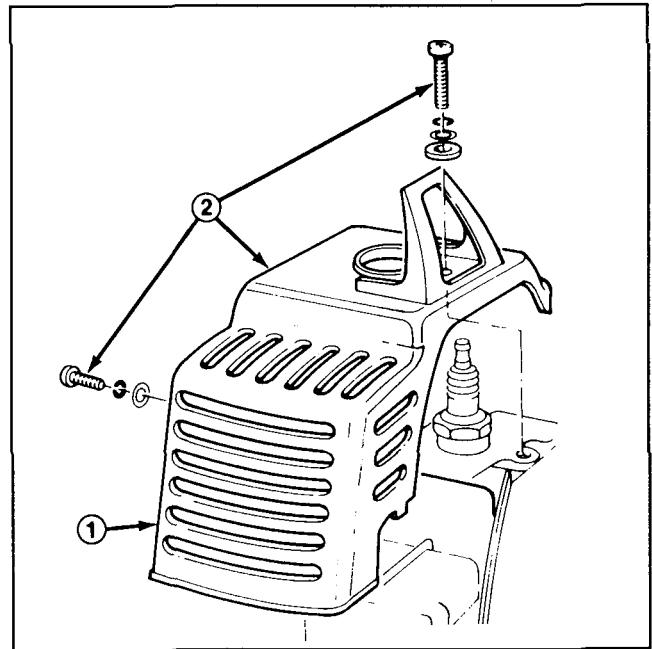

Figure 14
SERVICING MUFFLER (Figs. 14 & 15)
1. Remove three (3) screws securing muffler cover to trimmer (Fig. 14).